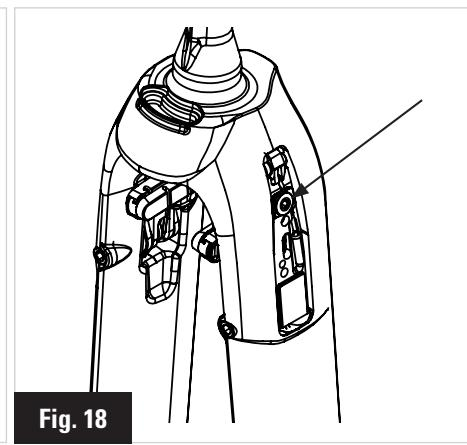

Fig. 18
12- Once this adjustment has been done ② use a 3 mm Allen key to tighten the cable clamp to 6 **Nm** torque (Fig. 18).